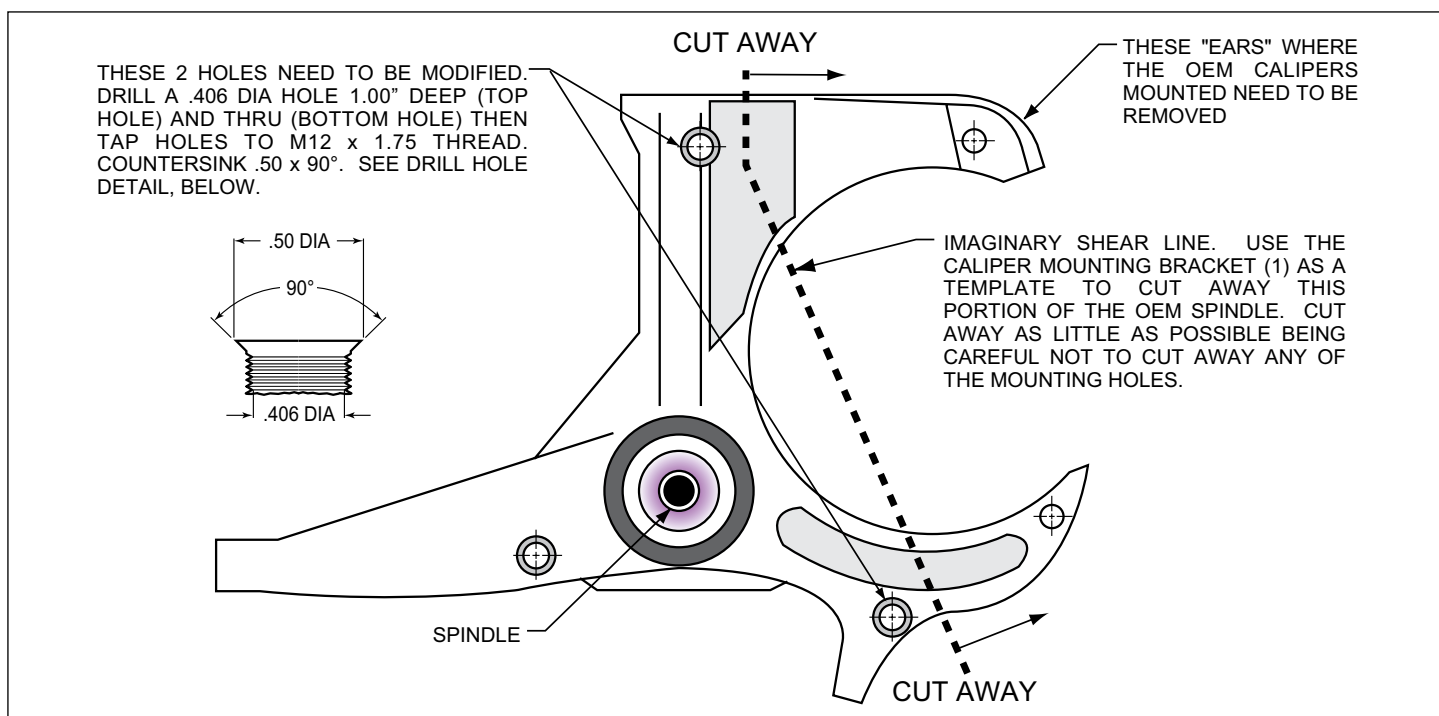
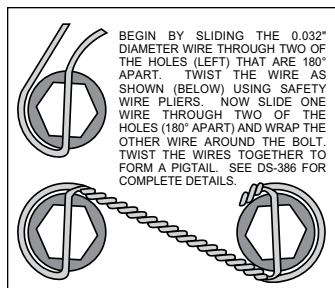

Figure 1. Steering Arm / Spindle Modifications
Figure 4. Safety Wire Diagram
NOTE: These modifications should be performed by a qualified machinist and completed before assembly of the Wilwood disc brake kit begins. Refer to Figure 1. Only one view of the steering arm/spindle is shown, but the modifications need to be performed on both steering arm/spindles.
The two OEM holes that will be used to mount the caliper mounting bracket (1) need to be modified. Drill a .406 diameter hole, 1.00" deep (top hole), and thru (bottom hole), Figure 1, then tap holes to M12 x 1.75 thread. Countersink the holes to .50 x 90°. The "ears" that protrude to form a "C" shape need to be removed to facilitate the installation of the Wilwood kit. Using the bracket as a template, mark two cut marks on the steering arm. Remove as little as necessary from the "C" shape, being careful not to cut away any of the mounting holes required to bolt on the bracket.
- Orient the rotor (9) and the hat (10) as shown in Figure 1 and Photo 4. Attach rotor to hat using bolts (11) and washers (12). Apply red *Loctite*® 271 to the bolt threads and torque to 155 **in-lb** using a criss-cross pattern. For an added measure of security, the bolts may be safety wired using standard 0.032 inch diameter stainless steel safety wire as shown in Figure 4. Refer to Wilwood's data sheet DS-386 (available at www.wilwood.com/Pdf/DataSheets/ds386.pdf) for complete safety wire installation instructions.
- **NOTE:** This kit contains distinct right and left hand calipers that must be mounted in a specific direction, as described below. Initially place one spacer (23) and two .035" thick shims (22) on each stud (21) between the caliper and the bracket, as shown in Figure 1 and Photo 7. Mount the caliper (18) onto the bracket (1) using lock nuts (19) and washers (20), Figure 1. Ensure that the caliper is mounted so the largest pistons are at the rotor exit end of the caliper, in relation to the direction of rotor rotation. Temporarily tighten the lock nuts and view the rotor through the top opening of the caliper. The rotor should be centered in the caliper, Photo 8. If not, adjust by adding or subtracting shims (4) between the bracket and the upright. Always use the same amount of shims on each of the two mounting bolts. Once the caliper alignment is correct, remove the bracket mounting bolts one at a time, apply red *Loctite*® 271 to the threads, and torque to 60 ft-lb.